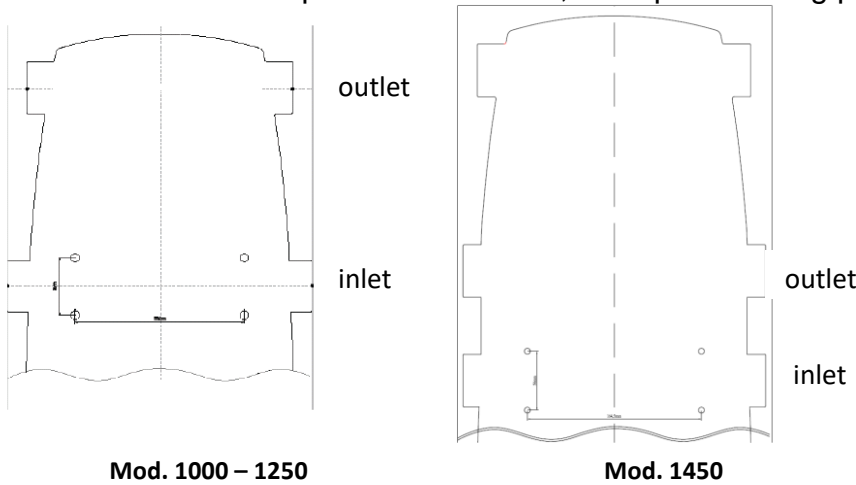

Figure 10
2. Use the template provided to mark the desired position. Verify that the position does not interfere with the passage of electric cables in the wall. (Figure 10).